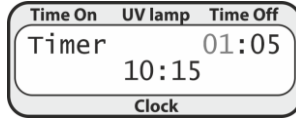

Figure 8. Timer mode setup
5.2.7 **Timer mode (figure 8, figure 11).** Select the mode (see 5.2.2-3). Setup the timer (top line) and current time (optional, bottom line). Press **Run/Stop** to apply the changes (see 5.2.4).